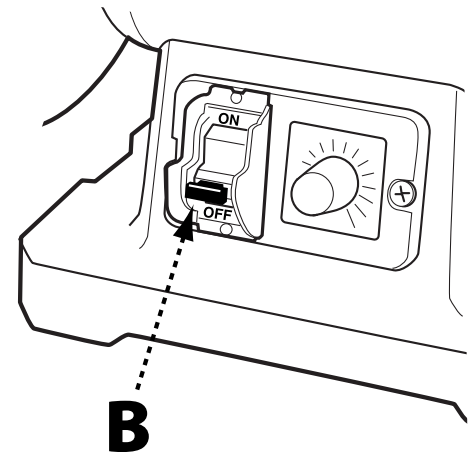

FIGURE 7
To lock the machine, remove the switch key (B) by pulling it straight out. See Figure 7. With the switch key removed, the switch will not operate.